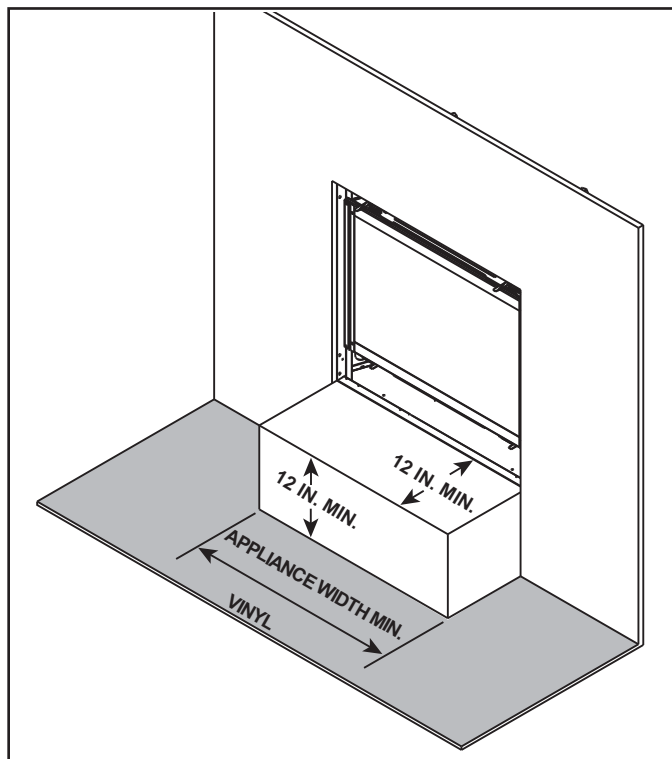

Figure 3.20 Vinyl Flooring Recommendations
- Combustible flooring may be located in front of the appliance. See Figure 3.20 for vinyl flooring recommendations.
Vinyl flooring is sensitive to heat. To avoid damage to the vinyl flooring, a 12 inch minimum x 12 inch minimum hearth is recommended when using vinyl flooring up to the wall. See Figure 3.20. If no hearth is used, it is recommended to provide a minimum of 24 inches of clearance in front of the appliance to the vinyl flooring OR the bottom of the appliance should be raised a minimum of 24 inches off of the floor to allow the vinyl flooring to be installed up to the wall.